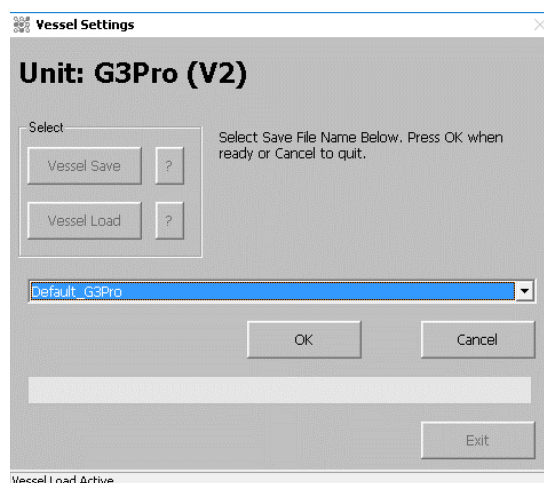

Figure 4.2. Loading an existing file to create a new file.
- The best way to create a new configuration is to load an existing save file. Select the appropriate file from the drop-down menu (Figure 4.2).